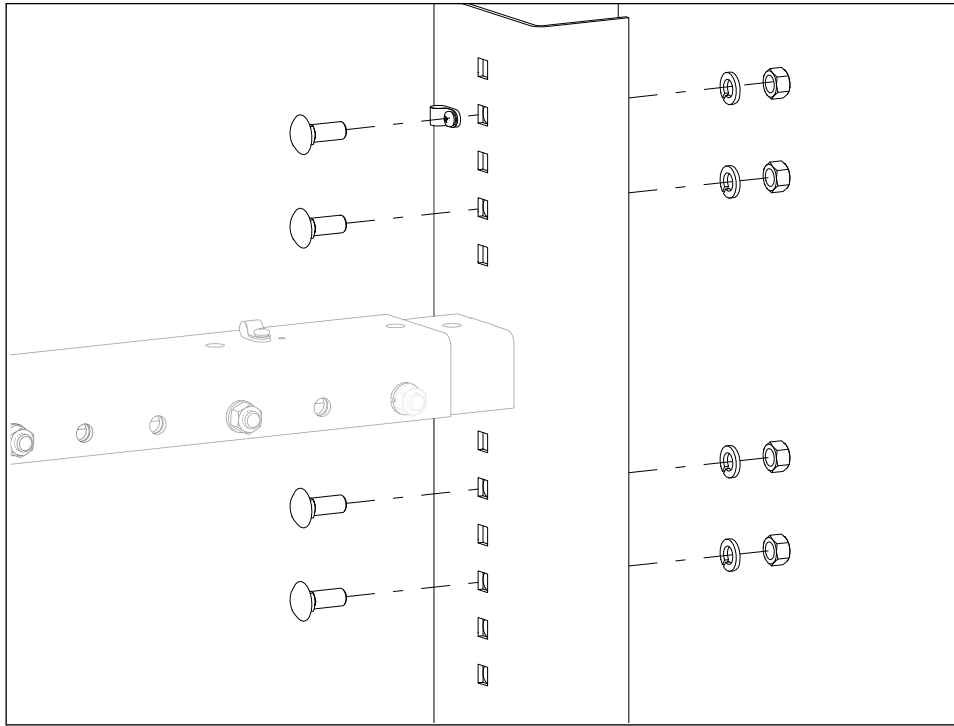

Figure 2-3. Height Bolt Installation
3. Remove the four 3/8-16 x 1 inch bolts from the weigh stand mounts. See Figure 2-3.